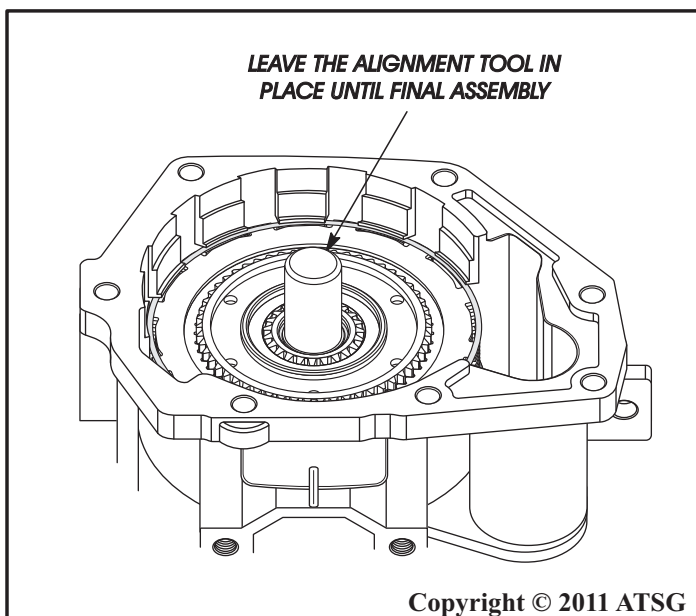

Figure 201
58. Leave spline alignment tool in place, as shown in Figure 201, and set the completed overdrive housing aside for final the assembly process.